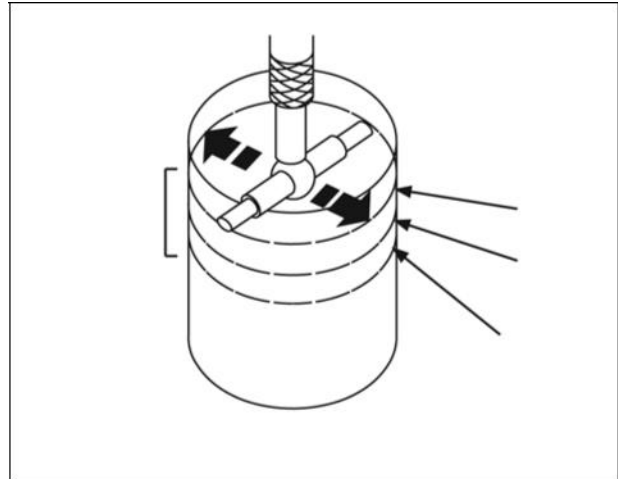

Figure 3
1. Measure cylinder bore in 6 points at right angles (Figure 3).